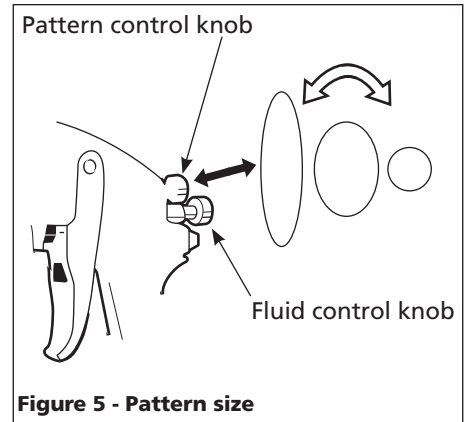

Figure 5 - Pattern size
2. Set pattern size to desired shape. For full pattern, open pattern control knob by turning counterclockwise. For a round pattern, turn pattern control knob clockwise (See Figure 5).
3. Turn fluid control knob fully clockwise until closed (See Figure 5).
5. Unscrew packing nuts and replace the packing **ONLY** if a leak will not stop when the nut is tightened (See Figure 5). Do not over-tighten a packing nut because this will restrict movement of the needle.